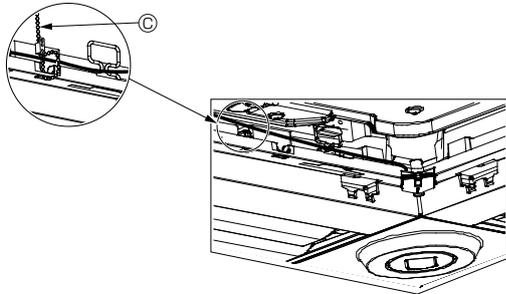

Fig. 10-12
- Secure the i-See sensor and signal receiver wires to the panel with the fastener as shown in the diagram so that there is no slack in the wires, and then cut off the excess end of the fastener. (Fig. 10-12)
- If the position of the i-See sensor was changed from the "○" position (E) to the "□" position (F), change the function settings. (Refer to page 11.)